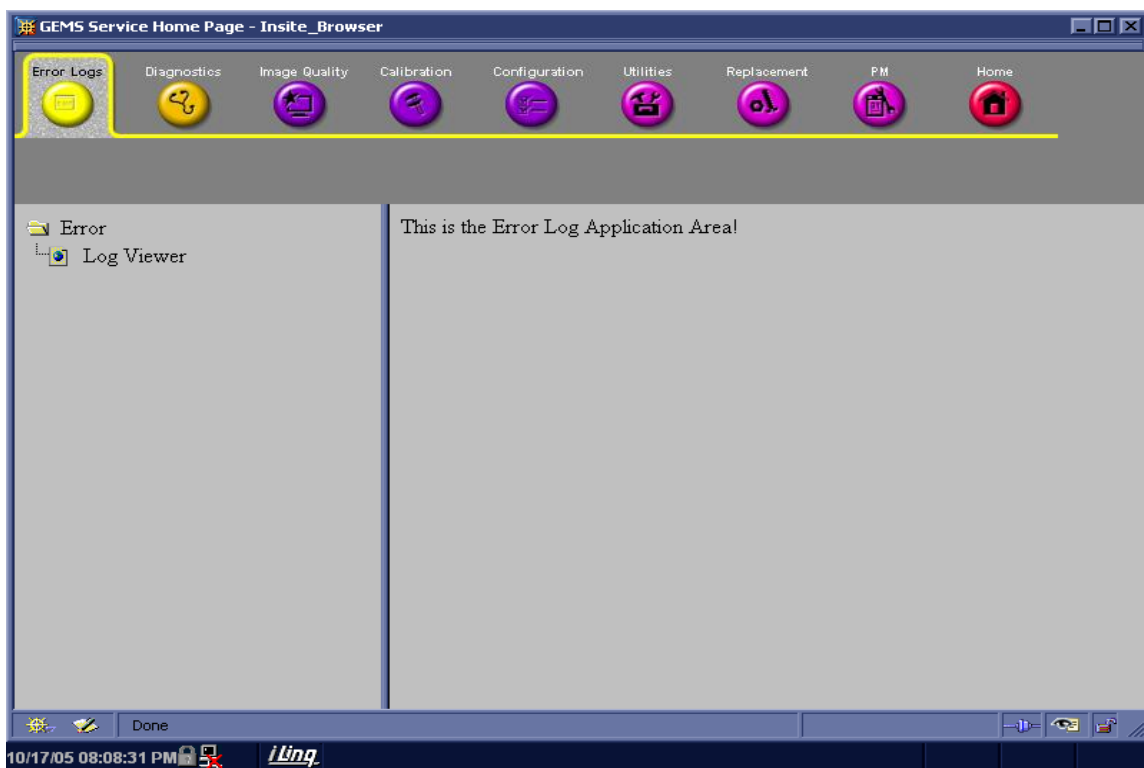

Figure 5-23 Log Viewer/Logs/Log Entries
*NOTE:* Figure 5-23 on page 31 Provides a graphical example of the log entries for the **System Logs**.